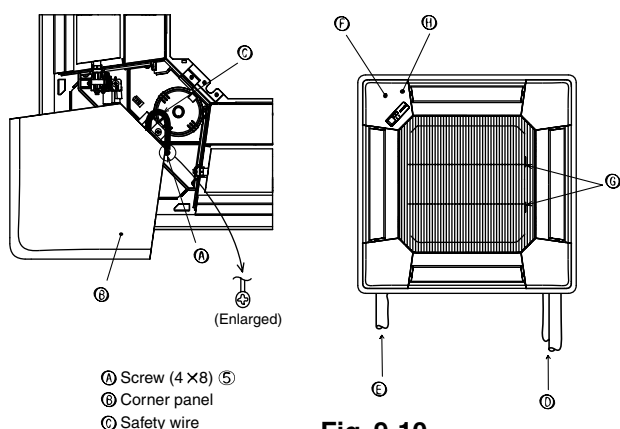

Fig. 9-10
9.7. Installing the intake grille (Fig. 9-10)